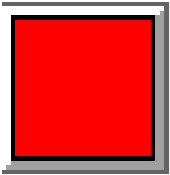

Figure 2.22
If a door is opened by any means other than the touchscreen operator or granted "INMATE CONTROL", an unauthorized access, (UA), alarm appears on the screen followed by an audible tone notifying the touchscreen operator of the alarm condition. An Unauthorized Access Alarm is represented by a flashing red square indication banner on the door switch icon, (See Figure 2.22).
If a door is left open for more than 15 seconds, (or time determined by owner), a prop alarm appears on the screen followed by an audible tone notifying the touchscreen operator of the alarm condition. A Prop Alarm is represented by a flashing red square indication banner on the door switch icon, (See Figure 2.22), same as a UA.